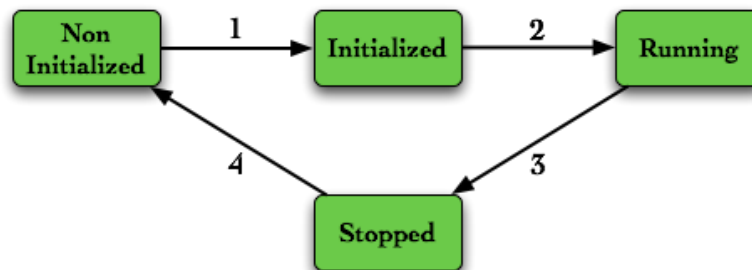

Figure B-2.1 - Application State Diagram
1. On the reader web page, navigate to the Cold Chain Tab as shown in Figure B-2.1.